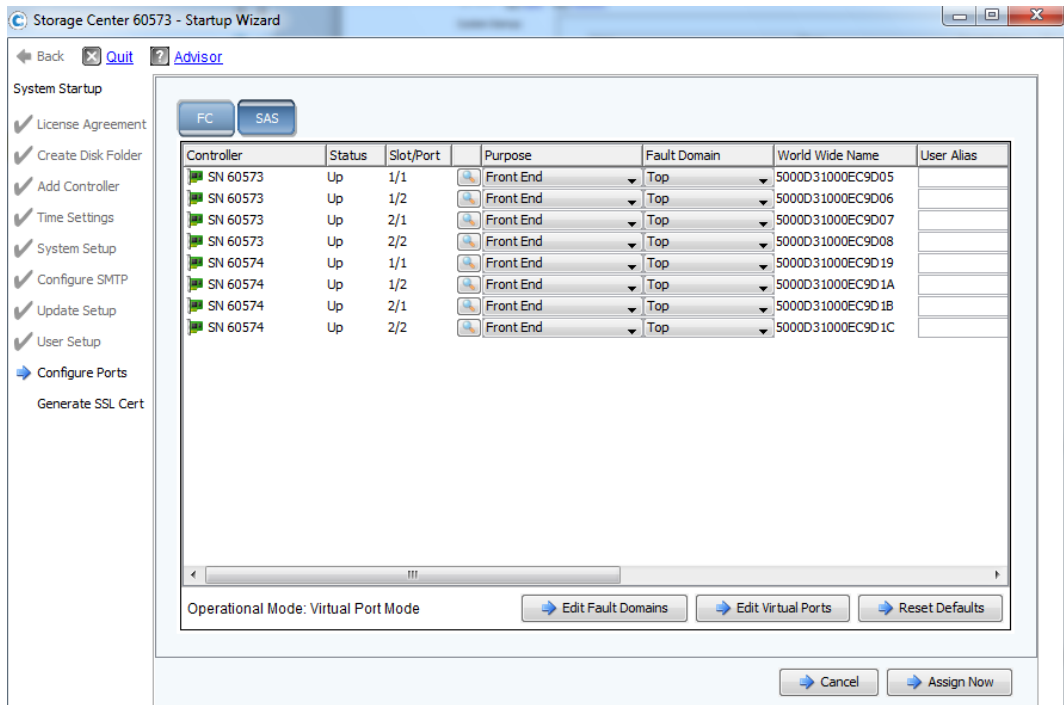

Figure 26. Configure ports
11. On the **Configure Ports** page (see Figure 26), do the following: